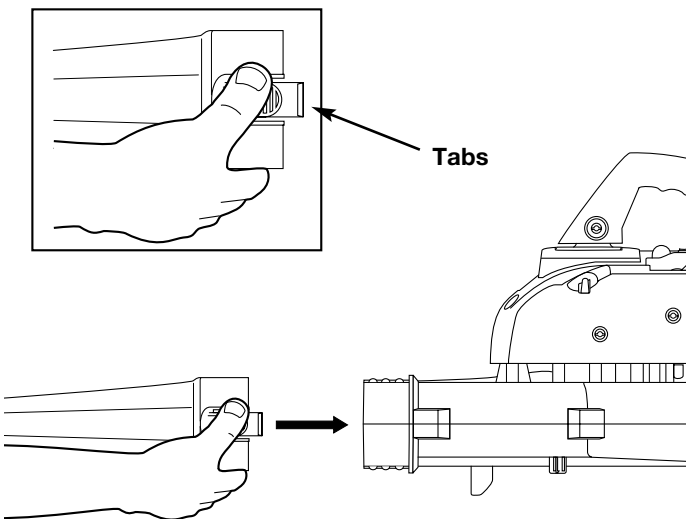

Fig. 1
- Install the blower tube over the blower outlet and push on until both tabs snap into place (Fig. 1).
- Remove the blower tube by pressing both tabs at the same time and pulling off the blower (Fig. 1).